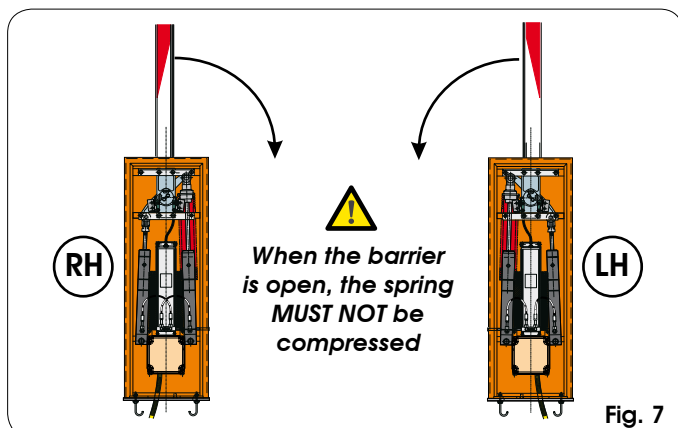
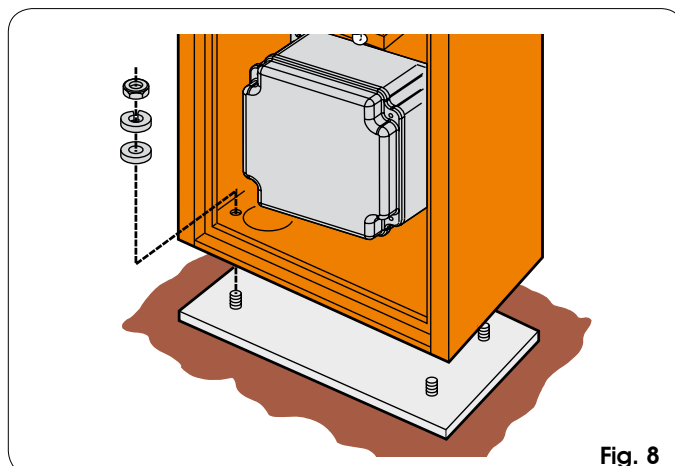

Fig. 7
Fig. 8
- 1) Fasten the upright on the foundation plate using the four supplied nuts (fig.8) and checking the configuration of the barrier as in figure 7. Remember that the hatch of the upright should normally face the building.